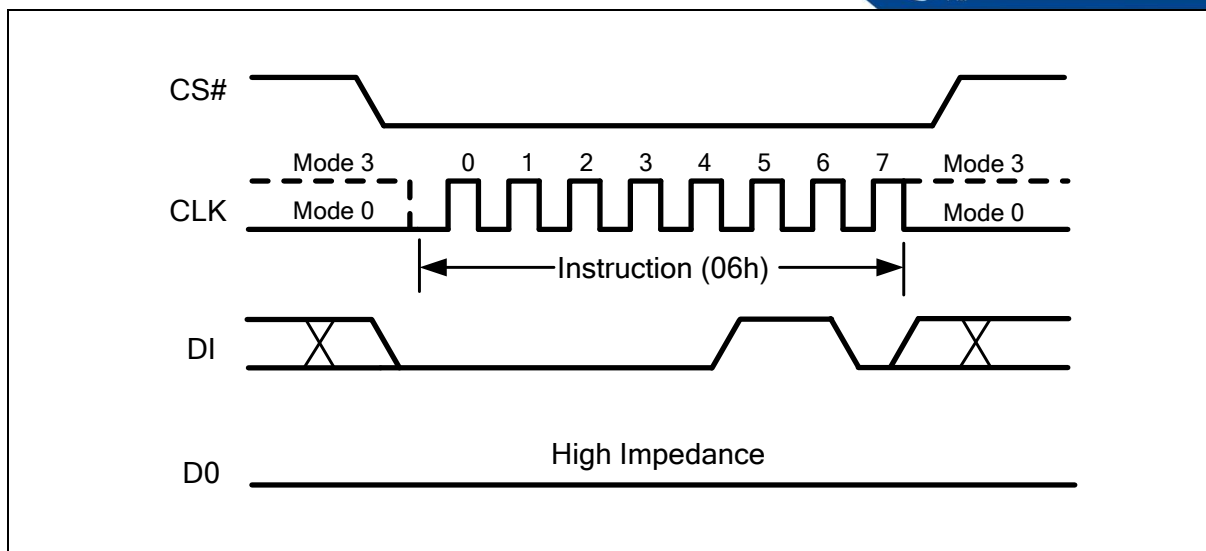
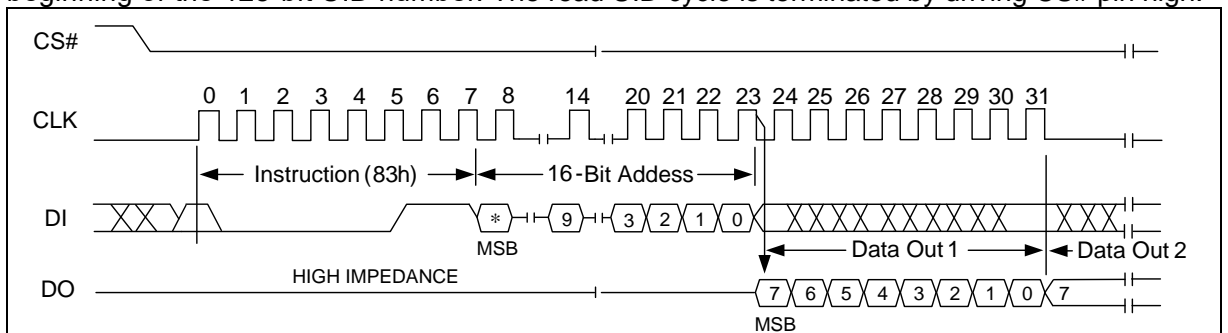

Figure 5 Write Enable Instruction
Figure 15 Read UID Number Sequence
Instructions vary in length from a single byte to several bytes and may be followed by address bytes, data bytes, and in some cases, a combination. Instructions are completed with the rising edge of edge CS#. Clock relative timing diagrams for each instruction are included in Figure 5 through Figure 15. All read instructions can be completed after any clocked bit. However, all instructions that Write must complete on a byte boundary (CS# driven high after a full 8-bits have been clocked) otherwise the instruction will be ignored. This feature further protects the device from inadvertent writes. Additionally, while the memory is being written, or when the Status Register is being written, all instructions except for Read Status Register will be ignored until the write cycle has completed.
The Write Enable (WREN) instruction (Figure 5) sets the Write Enable Latch (WEL) bit in the Status Register to a 1. The WEL bit must be set prior to every Write and Write Status Register instruction. The Write Enable (WREN) instruction is entered by driving CS# low, shifting the instruction code "06h" into the Data Input (DI) pin on the rising edge of CLK, and then driving CS# high.
The Read Unique ID Number instruction accesses a factory-set read-only 128-bit number that is unique to each FM25N256A device. The ID number can be used in conjunction with user software methods to help prevent copying or cloning of a system. The Read Unique ID instruction is initiated by driving the CS# pin low and shifting the instruction code “83h” followed by a 16-bit address A15-A0 into the DI pin. Address bit A9 must be ‘1b’, upper address bits are don't care, the lower address bits [A3:A0] define the byte address inside the UID. After which, the 128-bit ID is shifted out on the falling edge of CLK as shown in Figure 15. When the end of the 128-bit UID number is reached (16 bytes of data), the data word address will roll-over back to the beginning of the 128-bit UID number. The read UID cycle is terminated by driving CS# pin high.